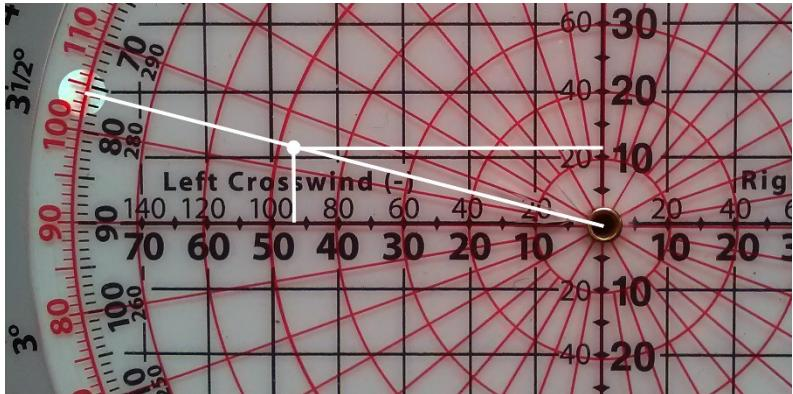

Figure 24.
2. Set 180° at the True Course (TC) index.
4. The crab angle (20) is fairly high; therefore, use "effective" true airspeed. Find 20 on the effective scale and read directly above (132).
5. Determine the difference between effective true airspeed and actual ground speed, which will be the headwind or tailwind component you will find on the computer. In this example, 132 (ETAS) – 120 (GS) = 12 headwind.
8. Find the point of intersection of the two lines to determine the wind dot. Its position indicates we have an actual wind from 104 true at 48 knots (see Figure 24).